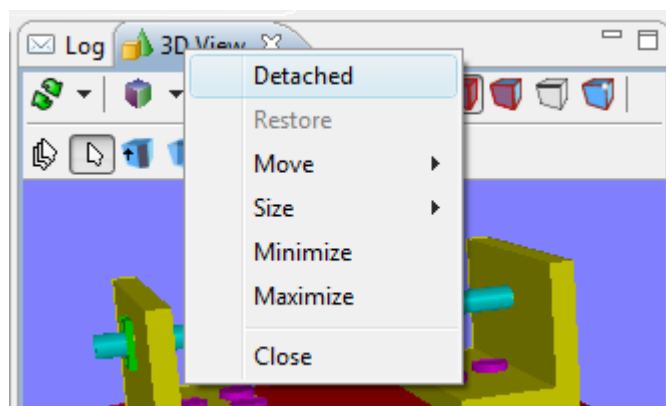

Figure 2. Context sensitive menu, Detached menu item
- Select **Detached** menu item in the appeared context sensitive menu (see Figure 2). The selected view is detached.